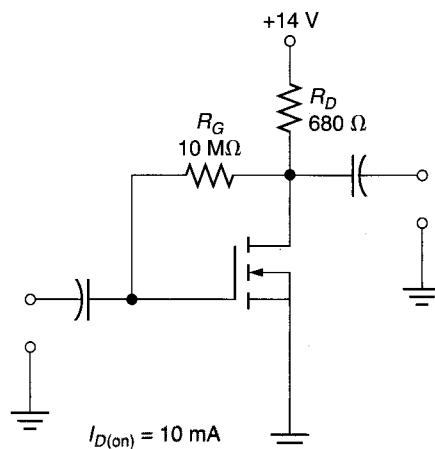

FIGURE 13.31
13. Calculate the values of  $I_D$  and  $V_{DS}$  for the amplifier in Figure 13.31.